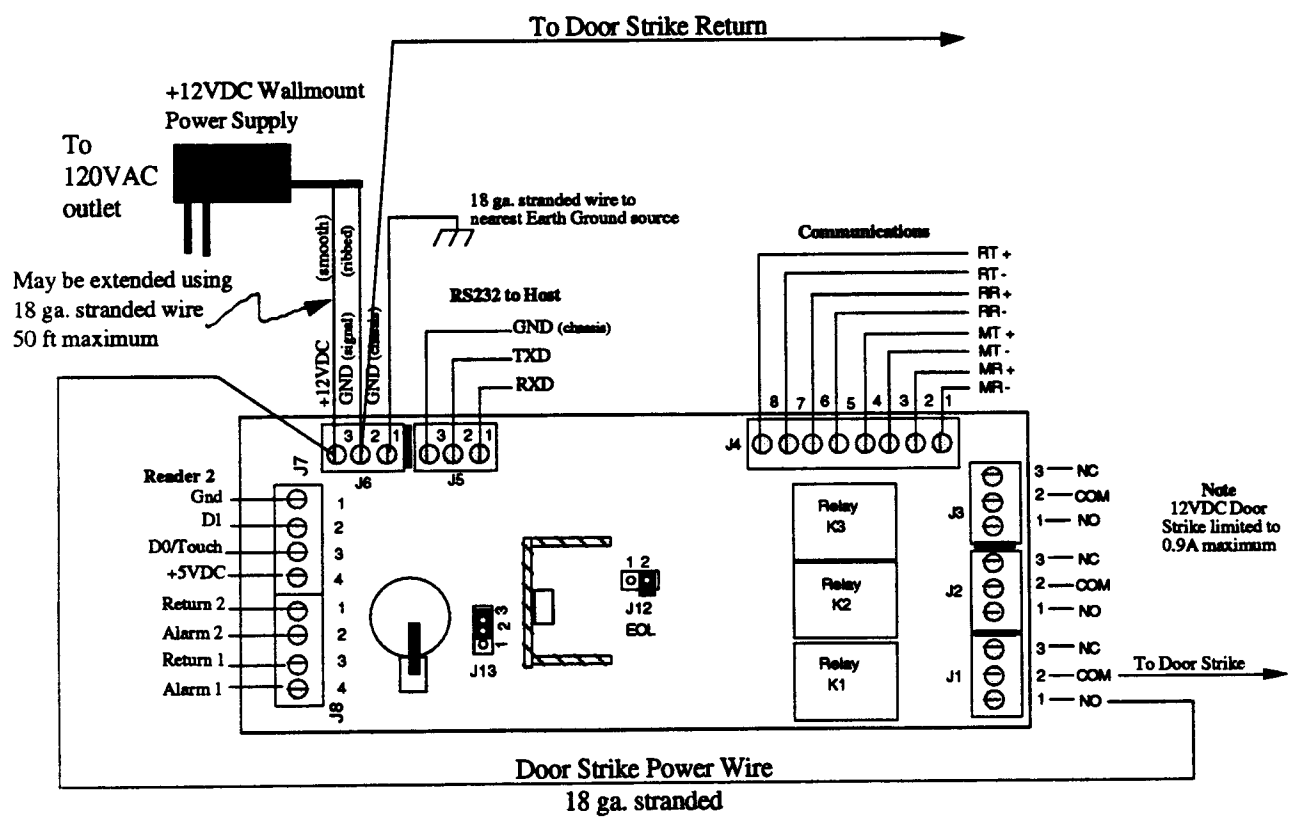

Figure 27 - Microterm Power Supply Door Strike Wire
If the Microterm 12VDC Power Supply is used to provide door strike power, connect the 12VDC input (J6-3) to the strike relay normally open (NO) contact (Relay 1; J1-1) using an 18 AWG wire. Use the COM contact to drive the door strike. Connect the Strike Return to the Microterm Ground (J6-2). Refer to Figure 27. **Note:** The 12VDC Door Strike **MUST** draw less than 0.9 amps.